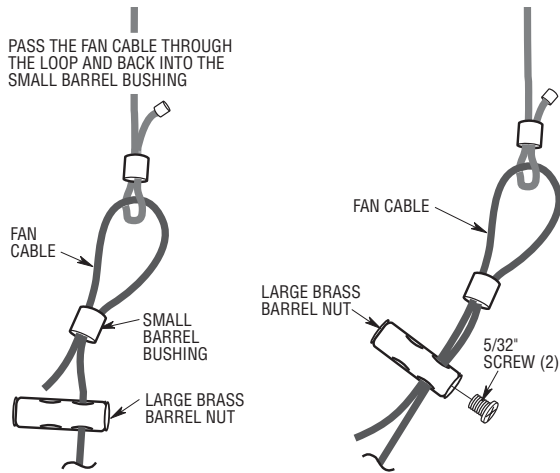

Figure 9A
- 7. Install the end of the fan support cable through one of the holes in the large brass bushing. Do not allow the bushing to slide down the cable and into the downrod (Figure 9A).
- 8. Install the end of the fan support cable through the center of the small brass bushing (supplied). Now pass the fan support cable through the loop provided on the free end of the ceiling support cable previously installed into the building structure. Next, pass the fan support cable back through the center of the small brass bushing in the opposite direction as the first pass. Pull as much cable as possible through the brass bushing (Figure 9A).
- 9. Insert the support cable back through the same hole of the large brass barrel nut in the opposite direction as the first pass (Figure 9A). Pull the cable tight, removing as much slack as possible (Figure 9A).